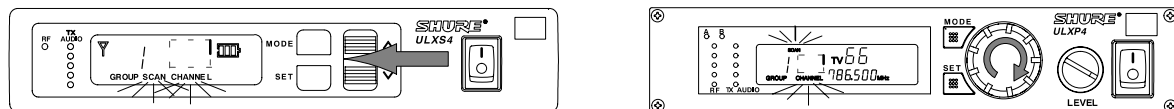

FIGURE 10
- Press the  $\wedge$  or  $\vee$  buttons (ULXS4) or rotate the control knob (ULXP4) clockwise one quarter turn. The next open Channel number will appear on the display, as shown in Figure 10.